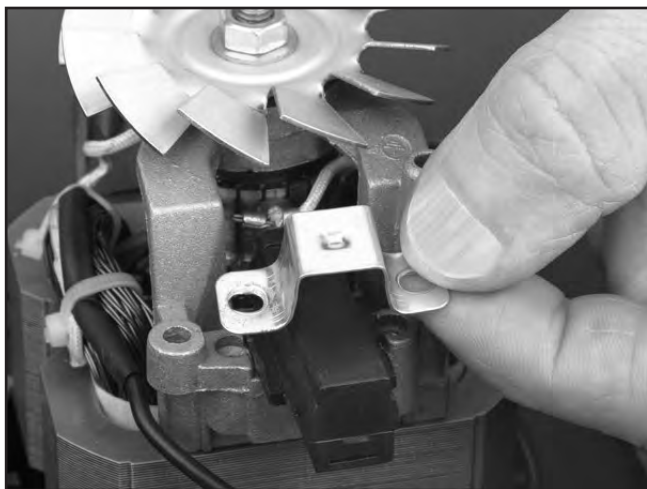

Figure 36. Brush retainer installation.
11. Place brush housing into brush seat on motor, and place retainer over brush housing so lock lug drops into slot in brush housing (see **Figure 36**).